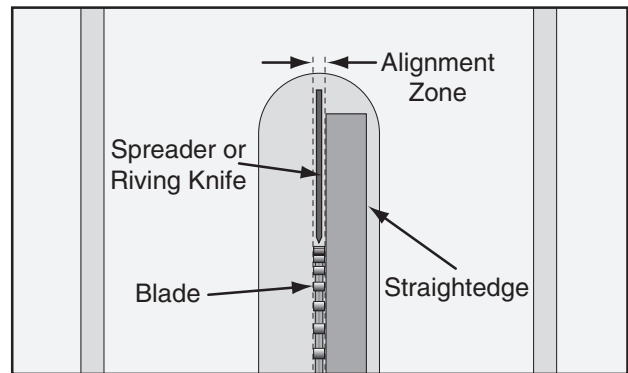
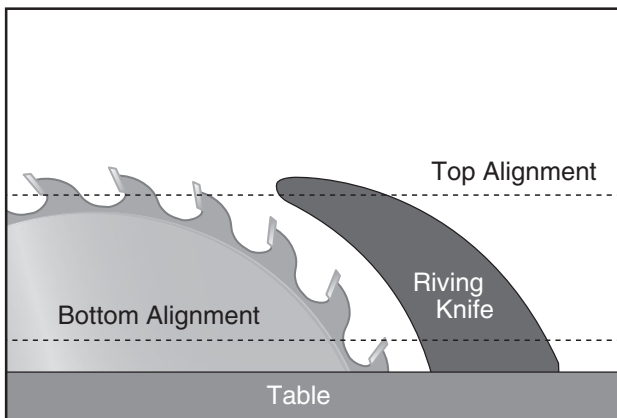

Figure 133. Spreader/riving knife alignment zone.
Figure 132. Checking top and bottom riving knife parallelism with blade.
4. Place the straightedge against the top and bottom of blade and spreader/riving knife, as shown in **Figure 132**. The spreader/riving knife should be parallel with the blade along its length at both positions and should be in the "Alignment Zone," as shown in **Figure 133**.